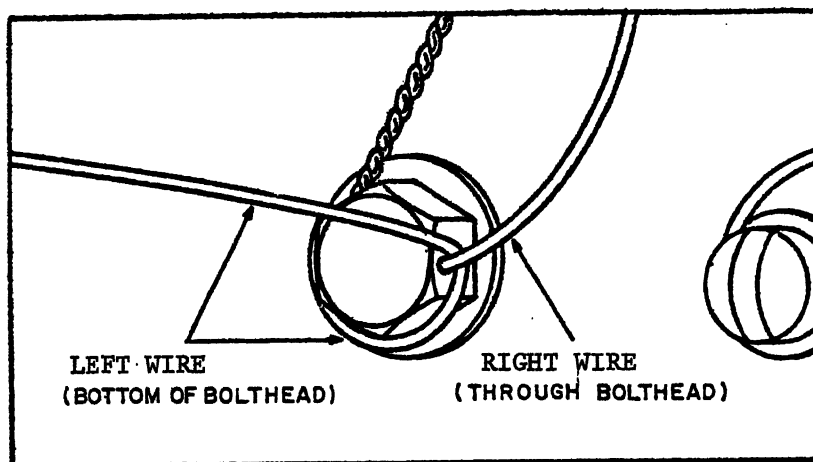

FIGURE 23
- f. Pulling the wire tight with the duckbills, wrap the LEFT wire around the bottom of the Bolthead and behind the RIGHT wire on the right side of the Bolthead; give one COUNTERCLOCKWISE twist. See figure 23.
- i. Pulling the wire tight with the duckbills, wrap the LEFT wire around the bottom of the bolthead and behind the RIGHT wire on the right side of the bolthead give one COUNTER-CLOCKWISE twist. See figure 23.